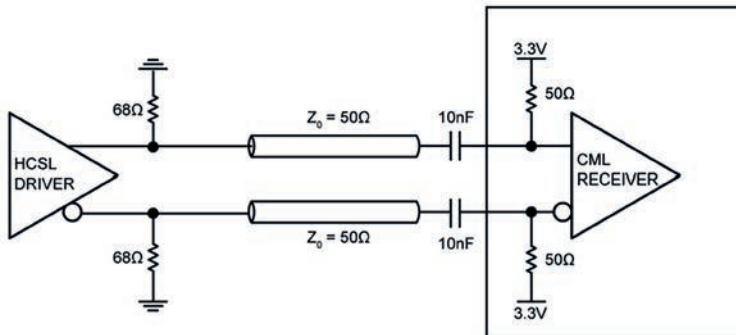

Figure 9: HCSL-to-CML translation
In Figure 9, each of the HCSL output pins switches between 0 and 14mA. When one output pin is low (0), the other is high (driving 14mA). The equivalent loading for the HCSL driver is 68Ω parallel to 50Ω, which equates to 28.81Ω. The swing level on the CML input is $14\text{mA} \times 28.81\Omega = 403\text{mV}$.